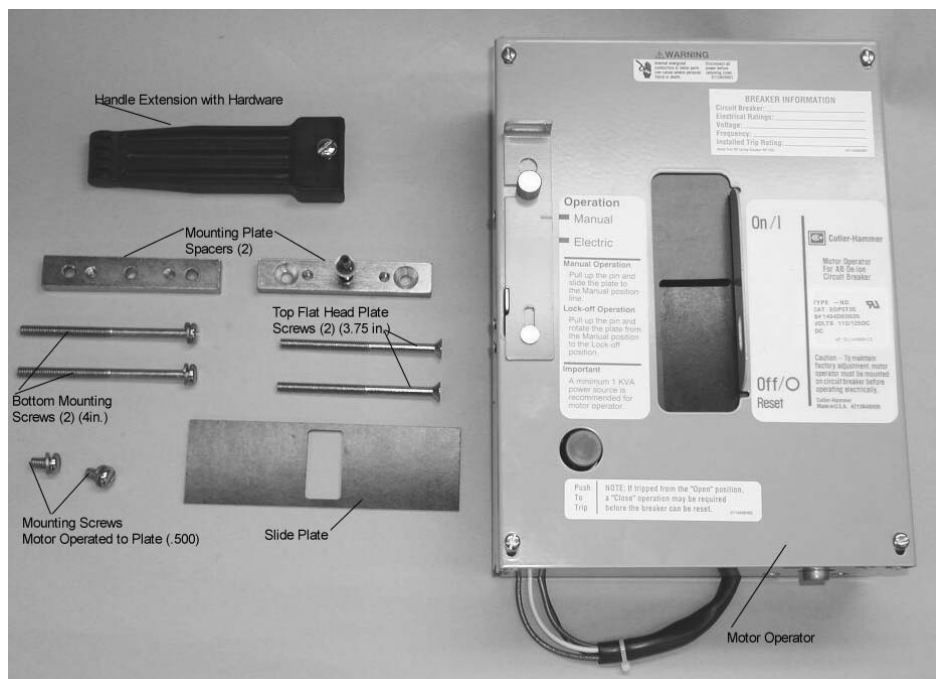

Fig. 2-1 Motor Operator Kit
- 2-1. Remove motor operator from packing. Inspect it for completeness (Fig. 2-1). Check the motor operator nameplate to make sure that the rating agrees with the installation requirements; and make sure that mounting hardware is included.
- 2-3. Assemble top mounting plate (spacer) with 3.75-in. flat head screws supplied (Figs. 2-1, 2-3, 4-2). Motor operator frame is to mount to this top plate using two .500-in. pan head screws.